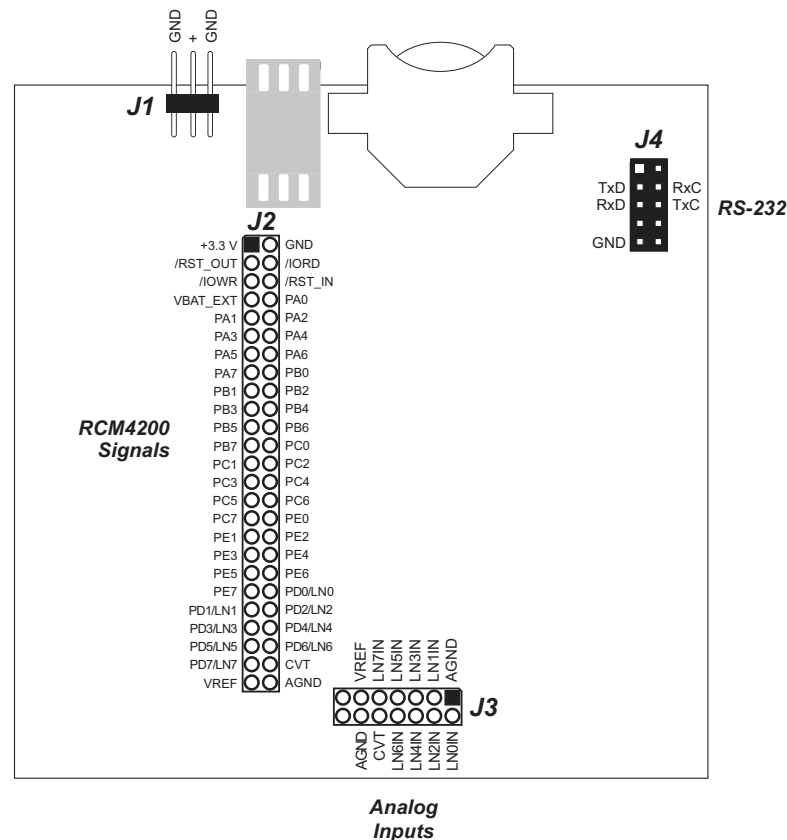

Figure B-4. Prototyping Board Pinout
- **Module Extension Header**—The complete pin set of the RCM4200 module is duplicated at header J2. Developers can solder wires directly into the appropriate holes, or, for more flexible development, a 2 × 25 header strip with a 0.1" pitch can be soldered into place. See Figure B-4 for the header pinouts.
- **Analog Inputs Header**—The Prototyping Board's analog signals are presented at header J3. These analog signals are connected via attenuator/filter circuits on the Prototyping Board to the corresponding analog inputs on the RCM4200 module. Developers can solder wires directly into the appropriate holes, or, for more flexible development, a 2 × 7 header strip with a 0.1" pitch can be soldered into place. See Figure B-4 for the header pinouts.
The Prototyping Board provides the user with RCM4200 connection points brought out conveniently to labeled points at header J2 on the Prototyping Board. Although header J2 is unstuffed, a 2 × 25 header is included in the bag of parts. RS-232 signals (Serial Ports C and D) are available on header J4. A header strip at J4 allows you to connect a ribbon cable, and a ribbon cable to DB9 connector is included with the Development Kit. The pinouts for these locations are shown in Figure B-4.